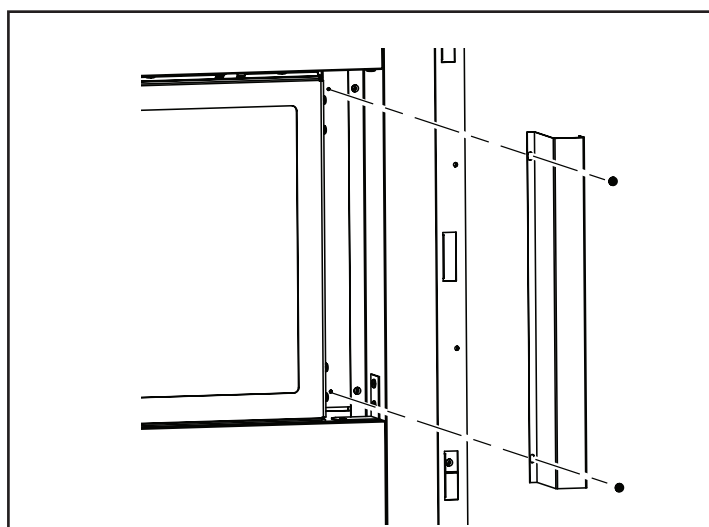

Figure 42 - Installing Side Face Filler for See-Thru Applications
1. Screw side face filler into firebox side baffle using 2 screws on both the left and right side as shown in Figure 42.